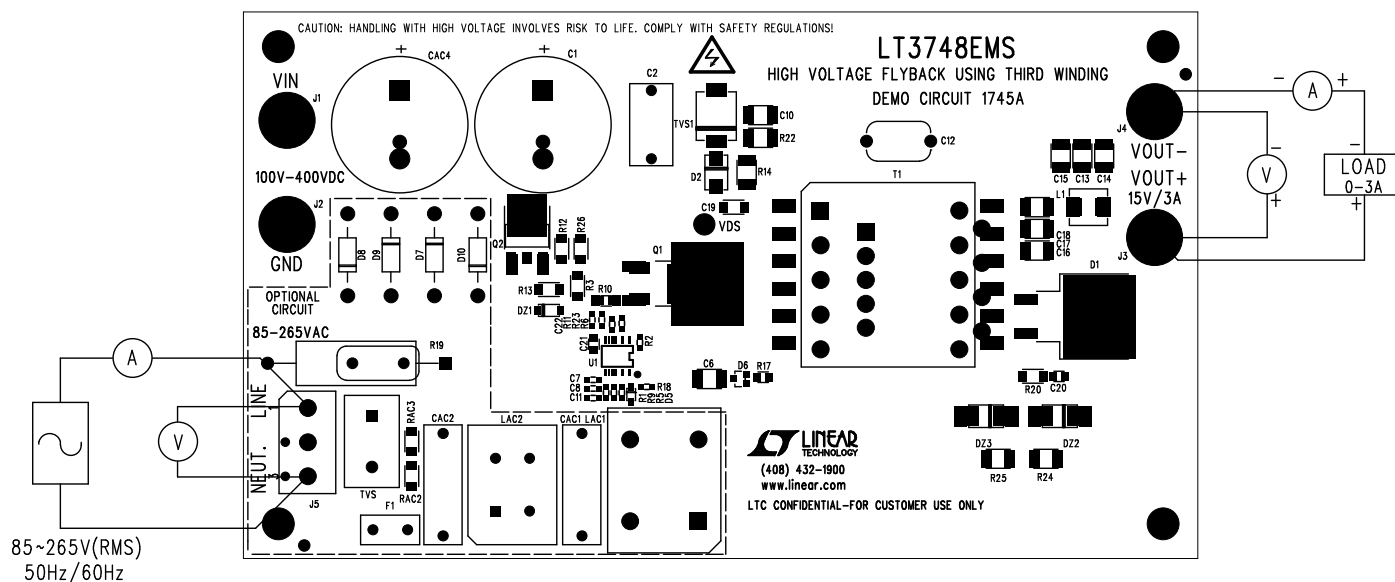

Figure 2. Proper Measurement Equipment Setup for AC Input
Optionally, this demo circuit 1745A can be used for off-line applications with universal ac inputs (85V ~ 265V). Refer to Figure 2 for proper measurement equipment setup. Follow the procedure below.
- With power off, connect the AC power supply to the AC input connector on the board (Refer to Figure 2).